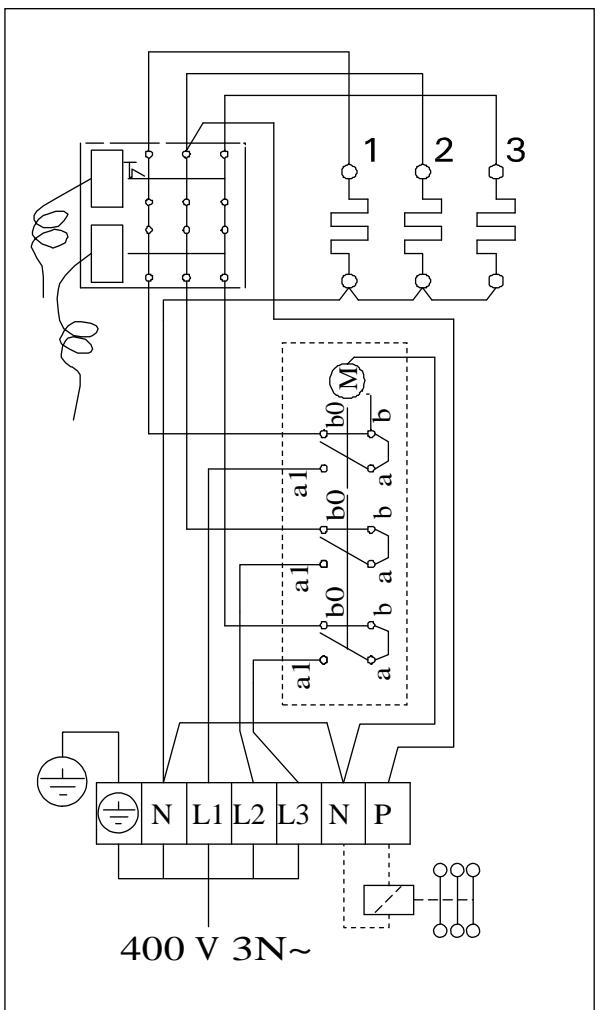

Figure 10. Electrical connections
- In addition to supply connectors, the CS heaters are equipped with a connector (P), which makes the control of the electric heating possible (figure 10). Voltage control is transmitted from the heater when it is switched on. The control cable for electrical heating is brought directly into the junction box of the heater, and from there to the terminal block of the heater along a rubber cable with the same cross-section area as that of the connecting cable.